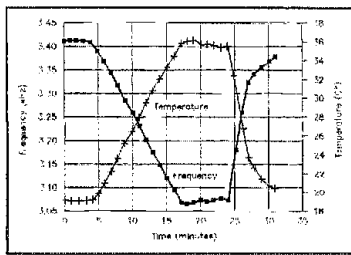

Fig 5—One temperature-drift run made with the oscillator of Fig 4. The circuit was not enclosed in a shield box.
Fig 5 shows frequency and temperature versus time for this circuit. I turned the oven on at 4 minutes and off at 17 minutes into the test. The oscillator seemed to follow the chamber temperature with virtually no time lag. Additional experiments to higher temperatures showed that the frequency continued to drop as temperature increased to values as high as 50 °C. The run shown in Fig 5 went from room temperature to 35 °C, producing a frequency change of about 3.5 kHz.
Fig 6—Thermal drift characteristic of the Fig 4 oscillator with some of its NPO tuned-circuit capacitance replaced by polystyrene-film units. The polystyrenes' negative temperature coefficient offsets drift in the oscillator inductor. (In this case, the result was modest *overcompensation*; see text.) As in the Fig 5 test, the oscillator was not enclosed in a shield box.
- Micrometals -6 toroid material, when used with high-quality NPO capacitors, form the most stable starting configuration I have found. The run of Fig 5 is typical ( $TCF = -28 \text{ ppm}/^\circ\text{C}$ ). After compensation, several oscillators have yielded TCFs between 1 and 2  $\text{ppm}/^\circ\text{C}$ . I have not yet investigated the newer -7 material that some builders have found useful.